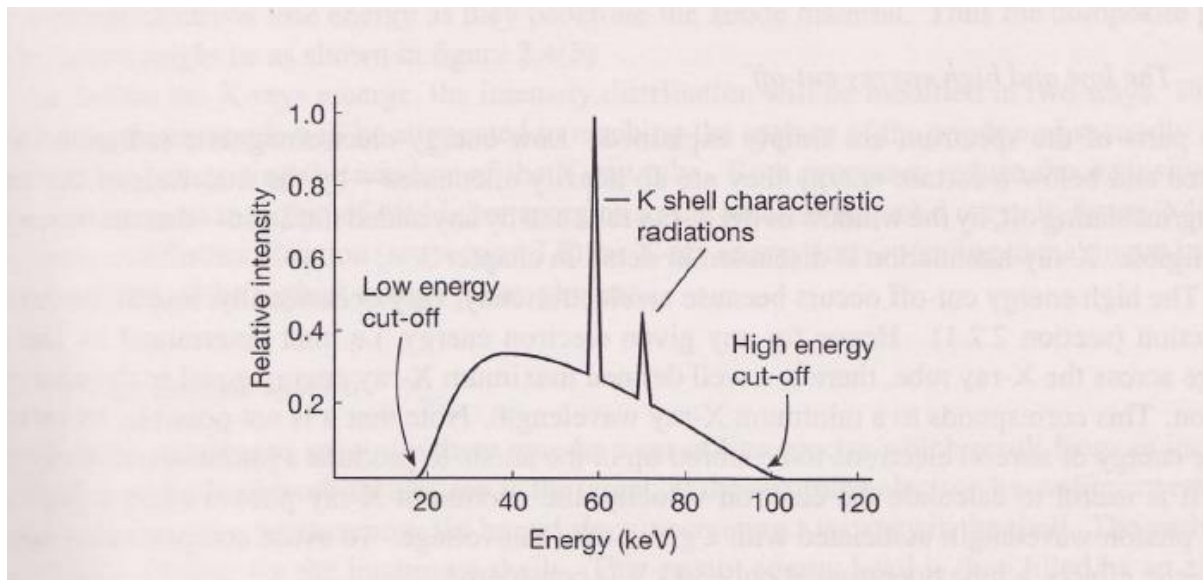

Fig. 4
*Note: Manufacturers normally express tube voltage as  $kV_p$ , this is the maximum voltage applied across the tube and not the peak of the voltage spectrum, e.g. from fig 4  $kV_p = 100$  keV, the ‘peak’ of the spectrum @ 40 keV is called the ‘effective energy’.*